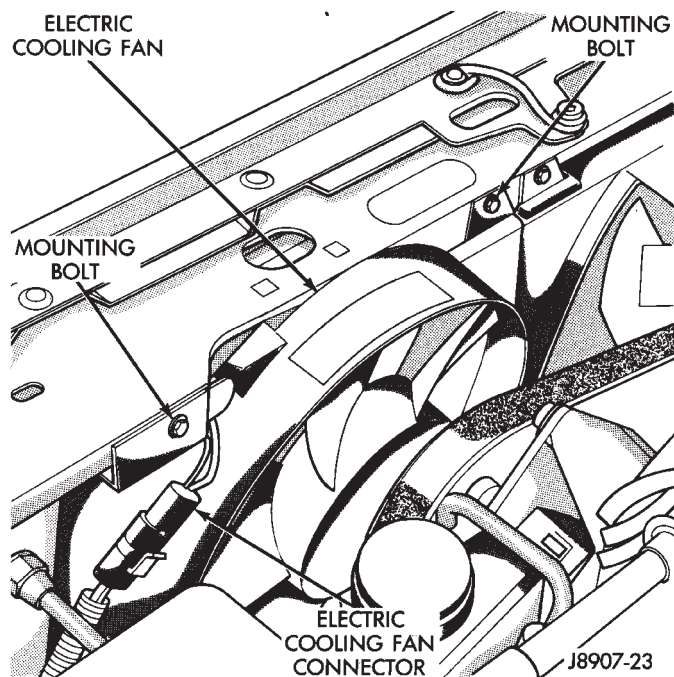

Fig. 43 Auxiliary Cooling Fan—Remove/Install—Typical
- (1) Remove the two fan mounting bolts from radiator upper crossmember (Fig. 43).
- (2) Disconnect the electric fan connector.